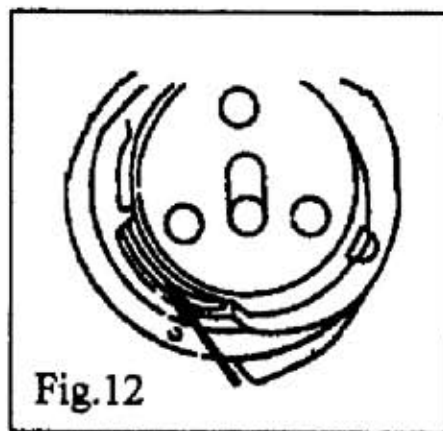

Fig.12
(5) Oiling the Rotating hook (Fig.12)
1) Take the bobbin capsule out and drip one or two drops of oil into the rotating hook path (fig 12) once daily.